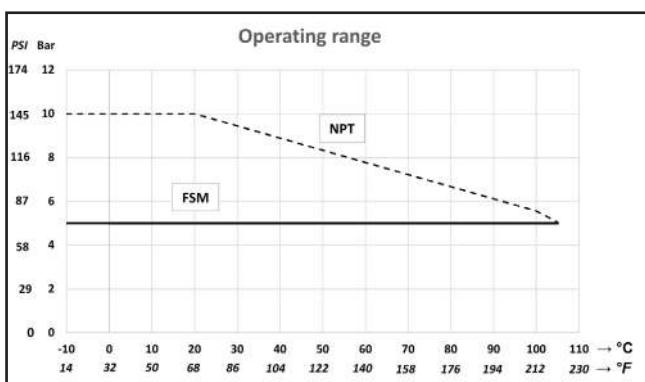

Figure 1: Pressure and temperature range for FU20
- Flat surface	: (See Figure 1)